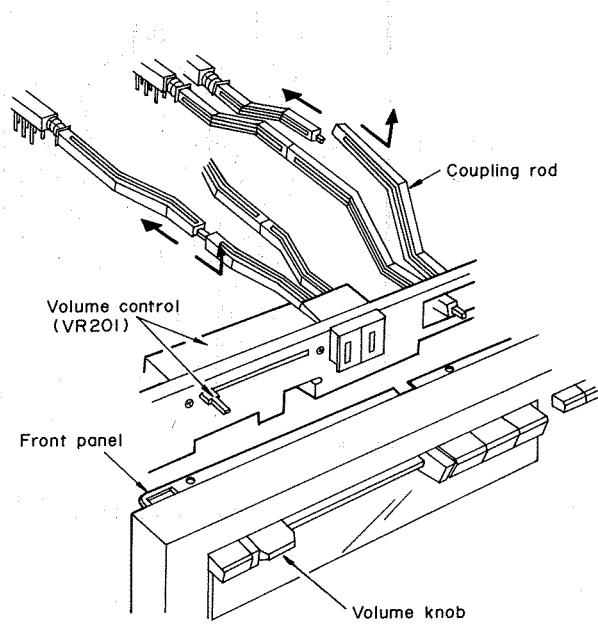

Fig. 17
- (1) When removing the coupling rod for the purpose of switch replacement or logic circuit repair, pull the rod as shown in Fig. 17 with the switch depressed and the button most projected (maximum stroke).